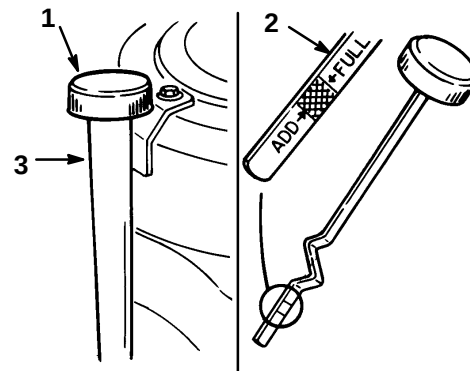

Figure 30
3. Clean around the oil dipstick (Fig. 30) so dirt cannot fall into the filler hole and damage the engine.
4. Unscrew the oil dipstick and wipe the metal end clean (Fig. 30).
5. Screw the oil dipstick fully onto the filler tube (Fig. 30). Unscrew the dipstick again and look at the metal end. If oil level is low, slowly pour only enough oil into the filler tube to raise the level to the “FULL” mark.
- Slowly pour approximately 80% of the specified amount of oil into the filler tube (Fig. 30). Now check the oil level; refer to Checking Oil Level, page 30, steps 4–5.